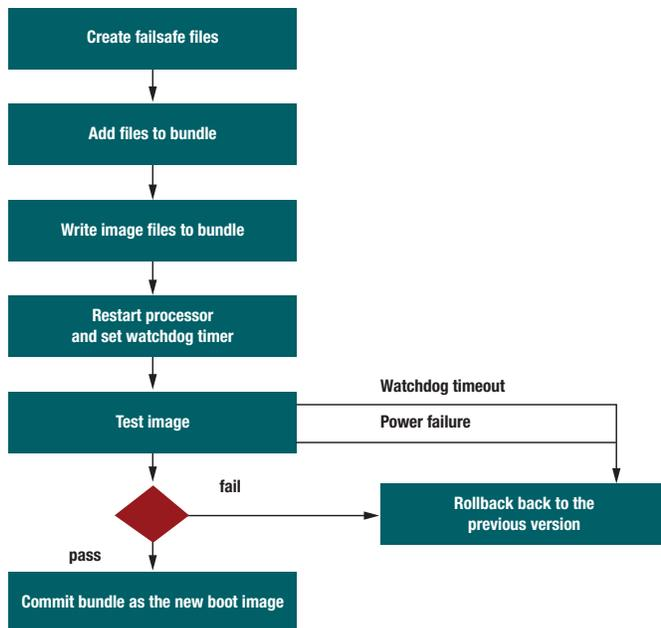

Figure 3. The Amazon FreeRTOS OTA update implementation leverages the bundle protection mechanism of the SimpleLink file system to test-run the new OTA image.
- Reversion if the OTA image fails to boot successfully.** Once the OTA agent verifies the download of a valid firmware update, it uses SimpleLink file system APIs to securely store the image and signature information, activate the image for testing, and to set the update image as the default if the tests are passed. The secure bootloader for SimpleLink Wi-Fi devices allows the booting of only correctly signed images. The OTA update image must contain the OTA update agent, as a number of AWS IoT functions are tested when the new image boots up. This ensures that the IoT device can securely connect to the IoT service and accept future OTA updates. A hook at the end of the AWS connectivity test enables a developer to add their own device-specific tests. The OTA agent uses the SimpleLink Wi-Fi bundle protection feature (see Figure 3) to prevent a failed update that results in a bricked device. Bundle protection enables the "test booting" of the image and sets a flag directing the bootloader to boot the OTA image prior to resetting the MCU. The bootloader starts by resetting the flag to use the previous working image for the next boot and sets a watchdog timer to trigger after an appropriate period. If the boot of the new image fails the self-test, hangs or experiences a power failure, the bootloader will simply revert to the previous image on the next boot. At that point, the OTA agent can restart the update process again. If the boot passes the self-test, the update image will be set as the default going forward.